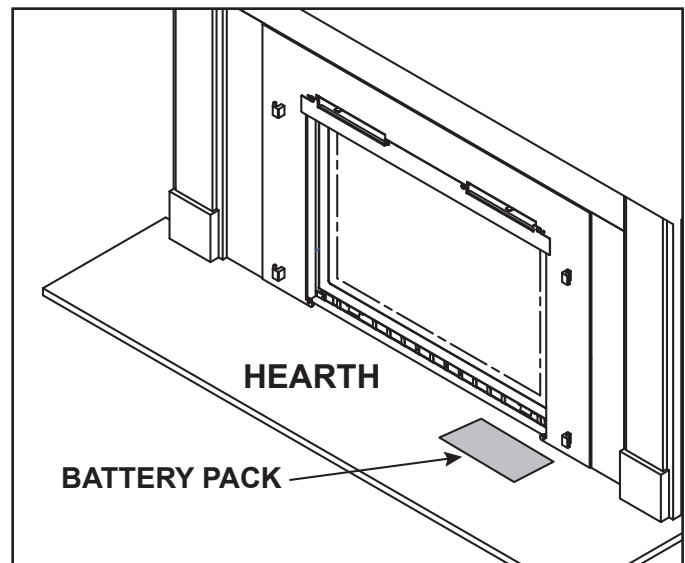

Figure 3.6
5. Gently place the battery pack on the hearth as far right as possible and approximately 2-1/2 inches away from the appliance. See Figure 3.6.